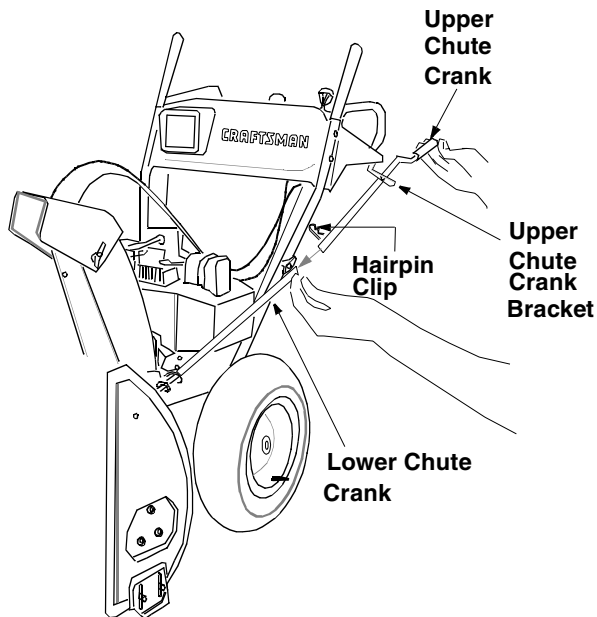

Figure 7
- Slide the upper chute crank through the plastic bushing in the upper chute crank bracket and then into the lower chute crank. See Figure 7 . Align the holes on the two pieces of the chute crank, and secure with hairpin clip from group B of the hardware pack.